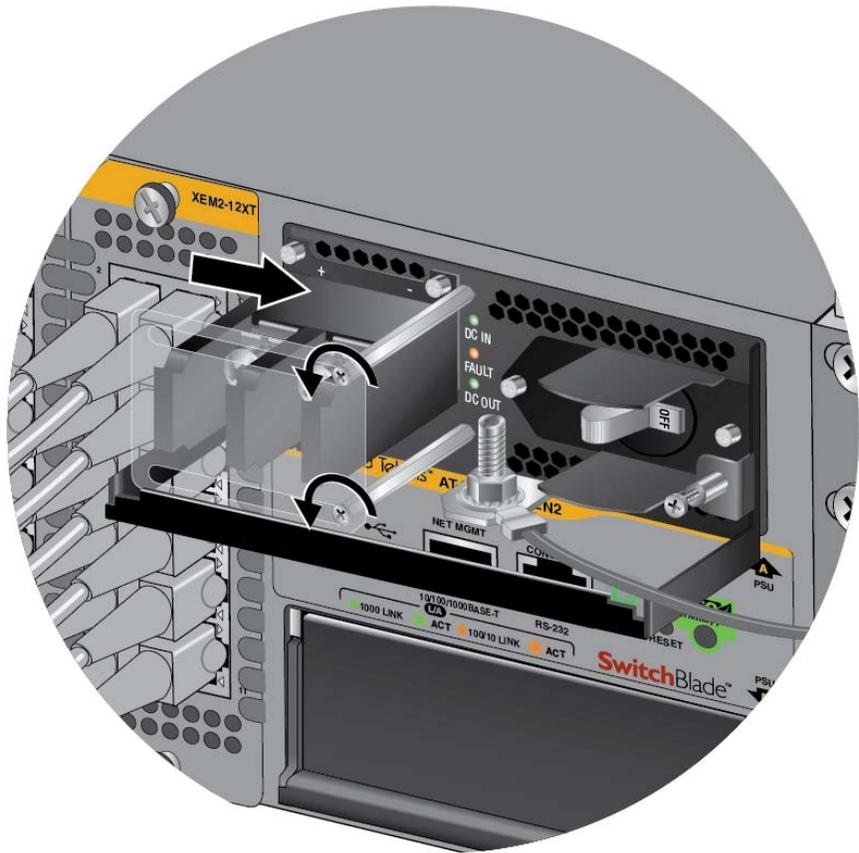

Figure 81. Opening the Plastic Cover
4. Use a #1 Phillips-head screwdriver to loosen the two screws on the plastic cover over the positive and negative terminals on the power supply and slide the cover to the right, as shown in Figure 81 on page 133. You may need to lift the locking handle slightly to access the bottom screw.
2. Use a #1 Phillips-head screwdriver to loosen the two screws on the plastic cover over the positive and negative terminals on the power supply and slide the cover to the right, as shown in Figure 81 on page 133. You may need to lift the locking handle slightly to access the bottom screw.